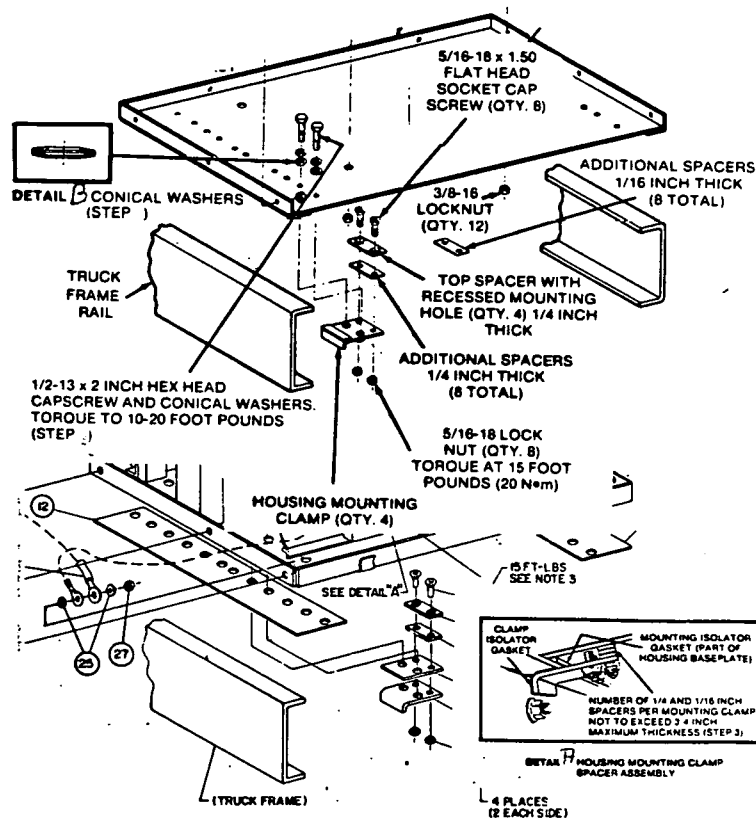

FIGURE 13. Mounting Clamp Spacer Assembly
3. Temporarily hold one mounting clamp in position (inside from underneath) against top frame rail flange of truck as shown in Figure 13, detail "A". Determine the number of 1/4 inch and/or 1/16 inch thick spacers (in any combination NOT to exceed 3/4 inch per mounting clamp) required to fill any gap between baseplate and mounting clamp under baseplate. These spacers are necessary to balance out the leverage of each mounting clamp.
required number of spacers to all four mounting clamps using 5/16-18 x 1-1/2 inch allen head cap screws and 5/16 lock nuts provided. Torque nuts to 15 foot pounds (20 N•m). See Figure 13. Top spacer has recessed mounting hole to accept special allen head capscrews.
6. Install ^{the} four mounting clamps with spacers (as required), two on each side under top flange of truck frame rails using 1/2-13 x 2 inch hex head cap screws and two special 1/2 inch conical washers on each cap-screw positioned as shown in Figure 13 detail "B". Tighten all eight capscrews until conical washers are flat (approximately 10-20 foot pounds-13.5-27 N•m). Do NOT over-torque. ↗
- ^{note} The mounting bolts are torqued correctly when the special washers are flat. See Figure 13 detail "B".